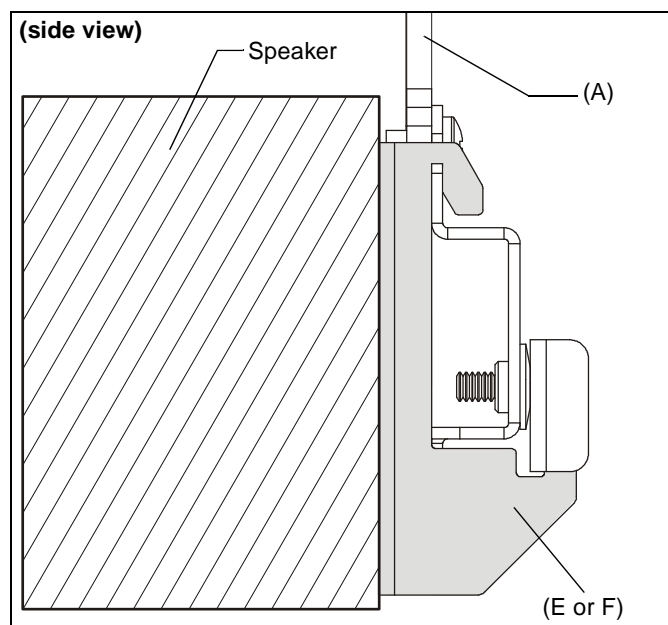

Figure 7
3. Attach speaker with attached center channel hooks (E, F) to the center assembly (A) by hanging the top hook on top of assembly, and swinging bottom of speaker in towards center assembly. (See Figure 7)